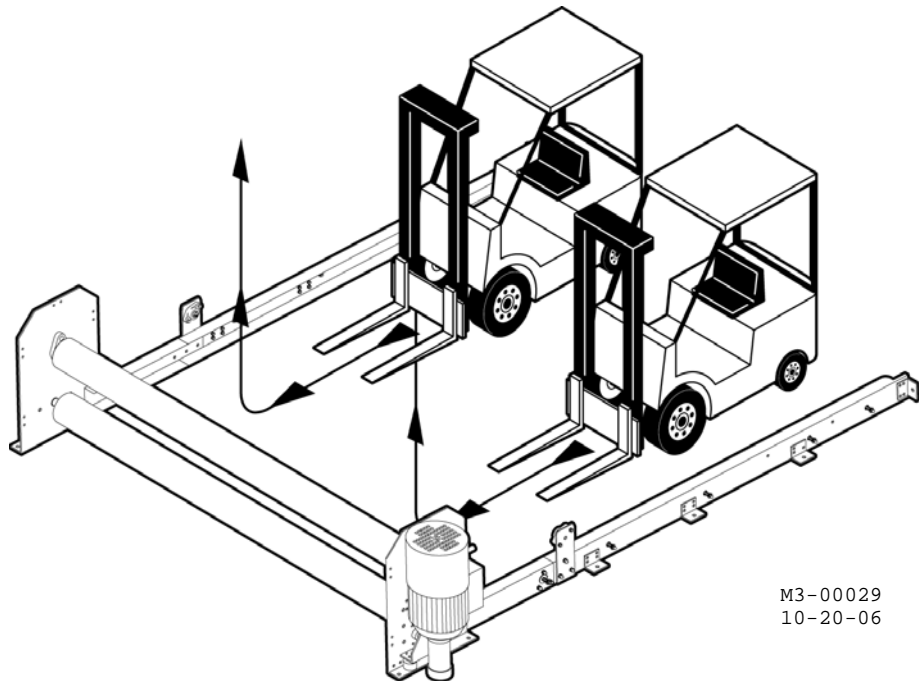

Figure 2-10: Placing the Head Assembly on the Forks
7. Lift the door into place using an appropriate lifting device. See Figure 2-10.